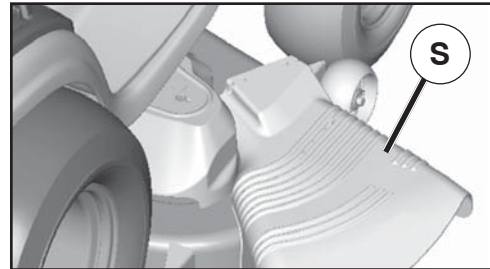

Fig. 13
**CAUTION:** Do not operate the mower without either the entire grass catcher, on mowers so equipped, or the deflector shield (S) in place (See Fig. 13).